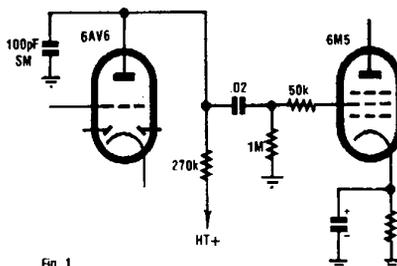

Fig. 1
- HMV Little Nipper — crackles and popping noises in late model Little Nippers can be caused by a defective silver mica bypass capacitor on the plate of the 6AV6 audio valve (see Fig. 1).
Fig. 1: this diagram lists most of the valves likely to be encountered in the average Australian-built receiver and shows where they are used. About 60 different types just about covers everything.
The mixer and the oscillator stages of a superhet receiver can be designed to work with one valve, two valves or two valves in the one envelope. In the block diagram (Fig.1), all the frequency converter valves, regardless of what type or where or how they are used, are listed under "mixer".
Fig.1 lists most of the valves the vintage radio enthusiast is likely to encounter in the average Australian built receiver. About 60 different valve types just about covers everything.